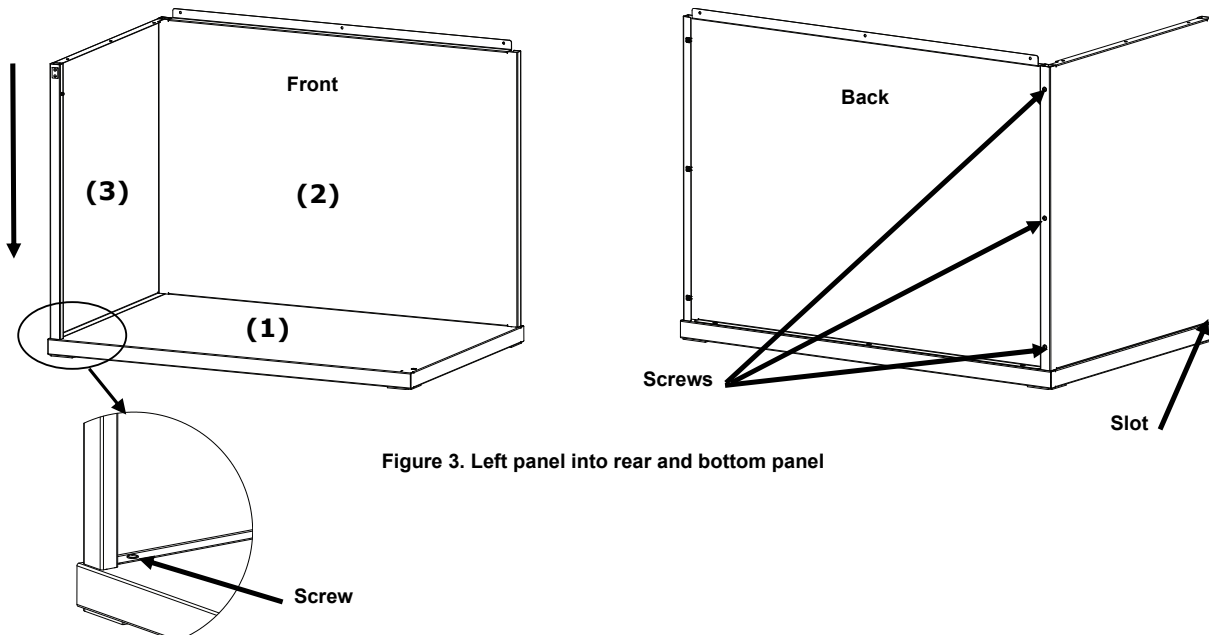

Figure 3. Left panel into rear and bottom panel
3. While supporting the rear panel (2), position the left panel (3) with the smooth side out over the top edge of the rear panel (2).
4. Slide the left panel (3) downward along the interlocking channel until the left panel (3) front tab inserts into the bottom panel (1). Fasten the left panel (3) to the bottom panel and rear panel by securing it with four screws as shown in Figure 3.